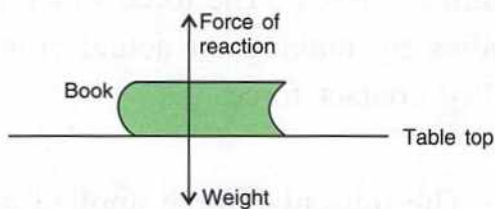

Fig. 3.15 The force of reaction as contact force
- d) The force of reaction normal to the surface when a body is placed on a surface (Fig. 3.15).